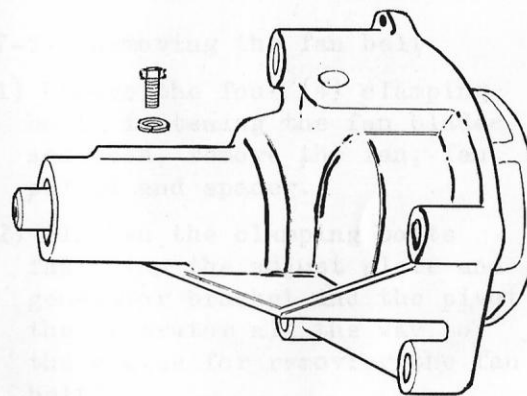

Fig. 7-4
- (3) Loosen the setting screws on the bearing unit and then pull out the shaft with the impeller. (See Fig. 7-4)